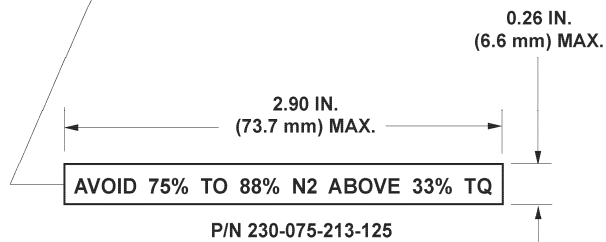

Figure 1- Typical 206B Instrument Panel Layout
2. The decal may be locally manufactured using lettering of white color (No. 17875) on black background color (No. 17038). Characters to be 10 point Spartan blackfont. Color per FED STD 595. The text for the decal is detailed in Figure 1 and should be in capital letters. It is permissible to use existing decal provided the "60 SEC MAX" wording is cut and removed.
2. Install 230-075-213-125 decal on the instrument panel as shown in Figure 1 below the NR/N2 dual tachometer. Sealer C-349 shall be applied over the installed decal.